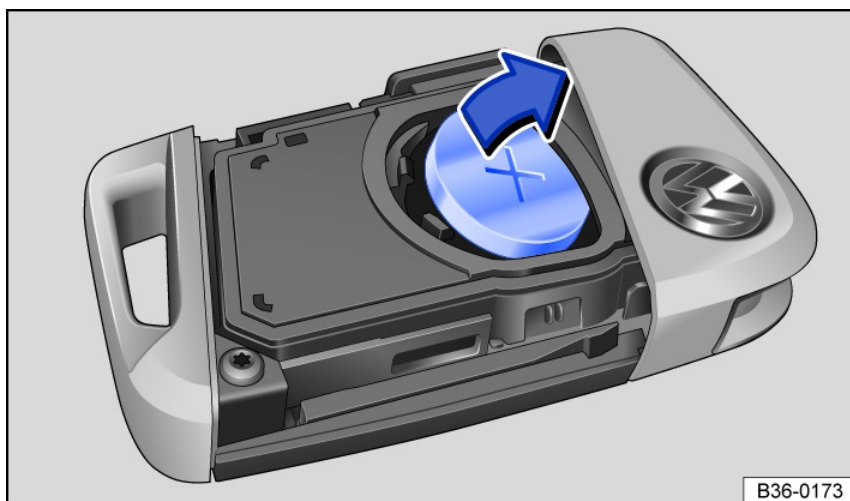

Fig. 53 Vehicle key: replacing the button cell battery.
- Lift the button cell battery out of the battery compartment fig. 53.
- Press the new button cell battery into the battery compartment fig. 53.